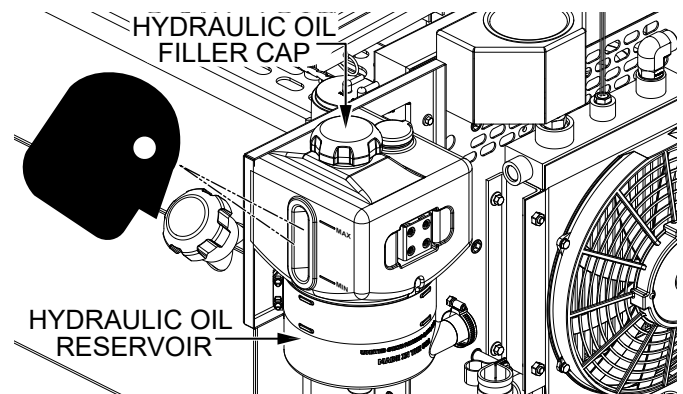

Figure 17. Hydraulic Oil Level Inspection
2. Visually inspect the level of hydraulic oil in the **hydraulic oil reservoir** (Figure 17). Hydraulic oil should be visible between the **MIN** and **MAX** lines on the reservoir.
3. If the hydraulic oil level is low, remove the **hydraulic oil filler cap** (Figure 17), and add hydraulic oil up to a level midway between the **MIN** and **MAX** lines on the reservoir. **DO NOT** overfill. Refer to Table 2 for suitable hydraulic oil types. Replace the filler cap when finished.